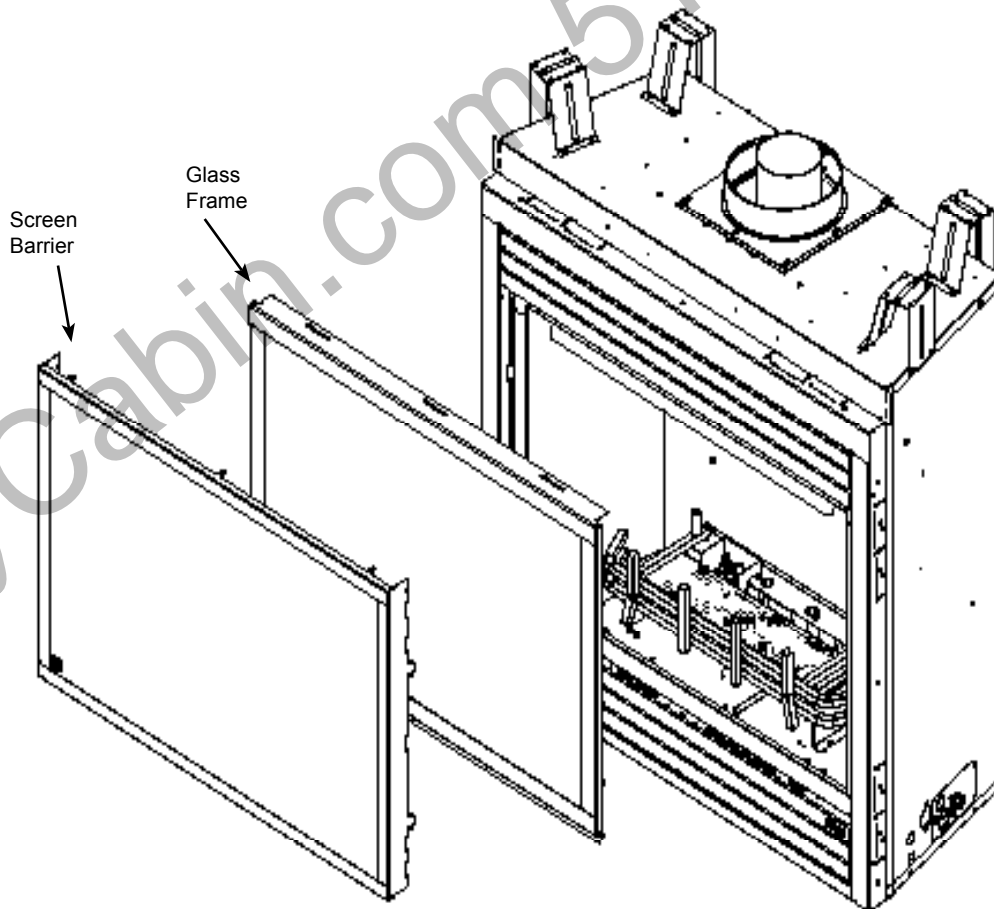

Figure 58 - Remove Glass Frame
1. Release two clamps on bottom of fireplace. *Figure 58*